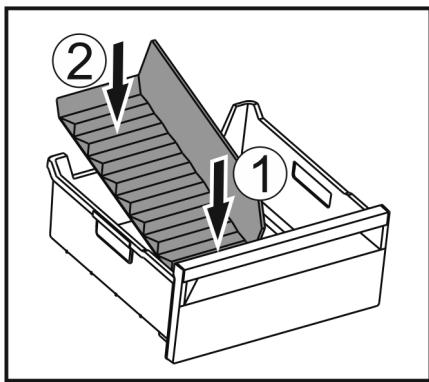

Fig. 170
- ▶ Insert the front part of the ice compartment divider. Fig. 170 (1)
- ▶ Lower the rear part of the ice compartment divider to the drawer bottom. Fig. 170 (2)